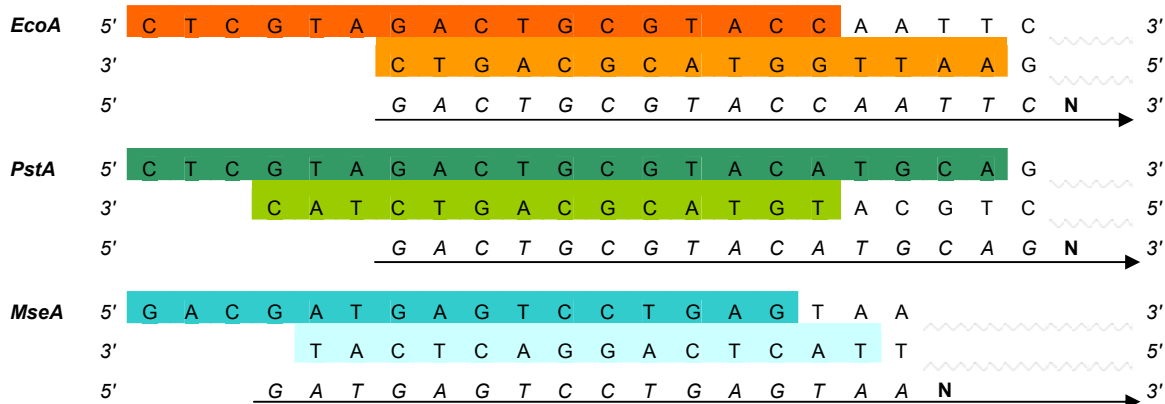

Figure 3 Structures of EcoRI- PstI-, and MseI-adapters and the respective primers
- Perform the PRE-AMPLIFICATION PCR reactions (Figure 3, Table 6, and Table 7) with temperature profile as given in Table 8.